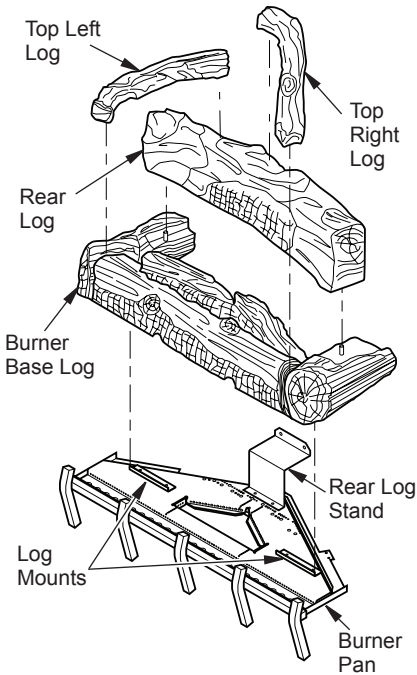

Figure 31 - Installing Logs
1. Position base log onto burner log mounts (see Figure 31).
2. Position holes on bottom of rear log over pins on base log (see Figure 31).
3. Position top left log and top right log onto rear log and base log as shown in Figure 31.